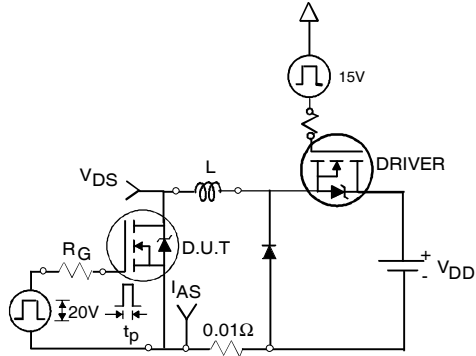

Fig 12a. Unclamped Inductive Test Circuit
- ③ $I_{SD} \leq 78A$, $di/dt \leq 320A/\mu s$, $V_{DD} \leq V_{(BR)DSS}$, $T_J \leq 175^\circ\text{C}$
- ④ Pulse width $\leq 400\mu s$; duty cycle $\leq 2\%$.
- ⑤ $C_{oss\ eff.}$ is a fixed capacitance that gives the same charging time as C_{oss} while V_{DS} is rising from 0 to 80% V_{DSS} .
- ⑥ Calculated continuous current based on maximum allowable junction temperature. Package limitation current is 75A.
- ⑦ Limited by T_{Jmax} , see Fig.12a, 12b, 15, 16 for typical repetitive avalanche performance.
3. Equation below based on circuit and waveforms shown in Figures 12a, 12b.